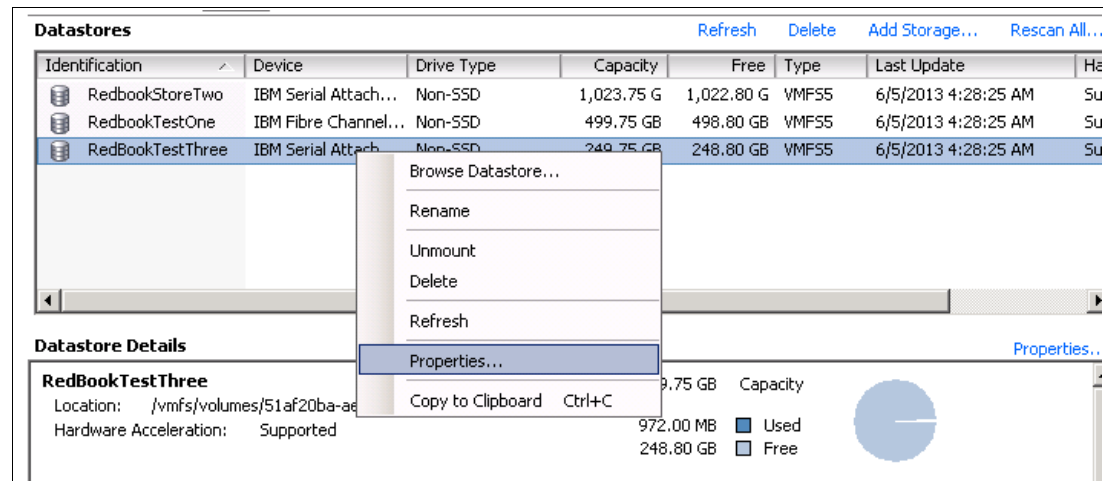

Figure 5-104 Datastore properties
- Highlight the new Datastore and click **Properties** (as shown in Figure 5-104).